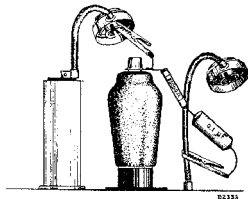

Fig. 3
6. Damp the second circuit by coupling a 25,000 ohms resistance with 0.1  $\mu\text{F}$  in series between the top connection of L2 and the chassis (see fig. 3).
5. Couple damping resistance 25,000 ohms + 0.1  $\mu$ F between the top of L2 and the chassis (fig. 3).